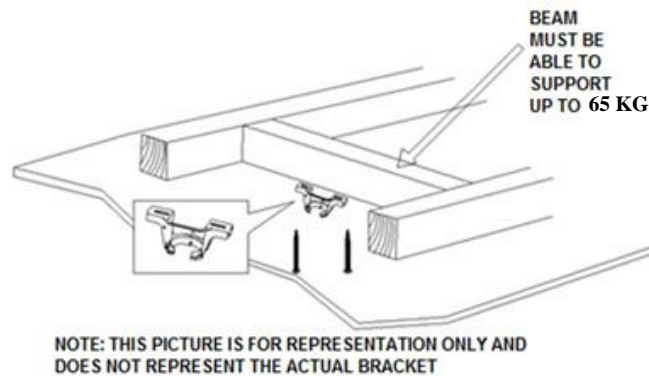

Fig. 2
- Install the hanging bracket to the ceiling joist or structure that is capable of carrying a load of at least 65kg, with two long screws provided. Ensure at least 30mm of the screw is threaded into the support. (Fig. 2)